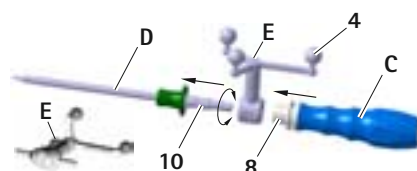

Fig. 6 Mounting the IGS Tool Star Unit and S⁴C handle (FW067R or FW165R) onto the S⁴C screwdriver
- Release locking sleeve **8**, see Fig. 6.